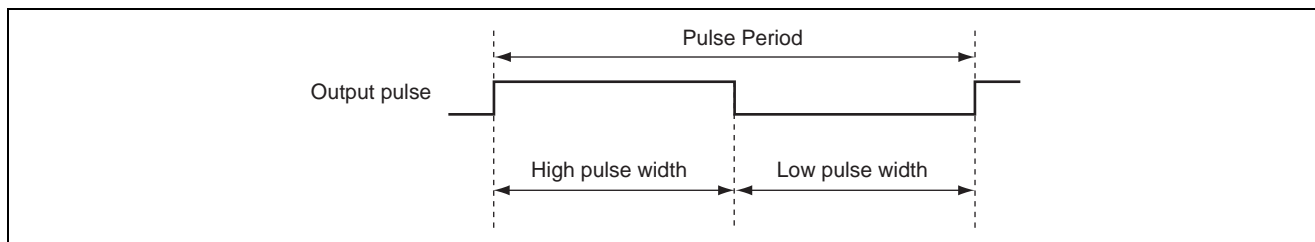

Figure 1 Example of Long-Period Pulse Output by Cascaded TPU Channels
- Two channels of 16-bit counters are cascaded to function as a 32-bit counter. The resulting counter outputs long-period pulses with a variable duty cycle, which is controlled by varying the high pulse width as shown in figure 1.